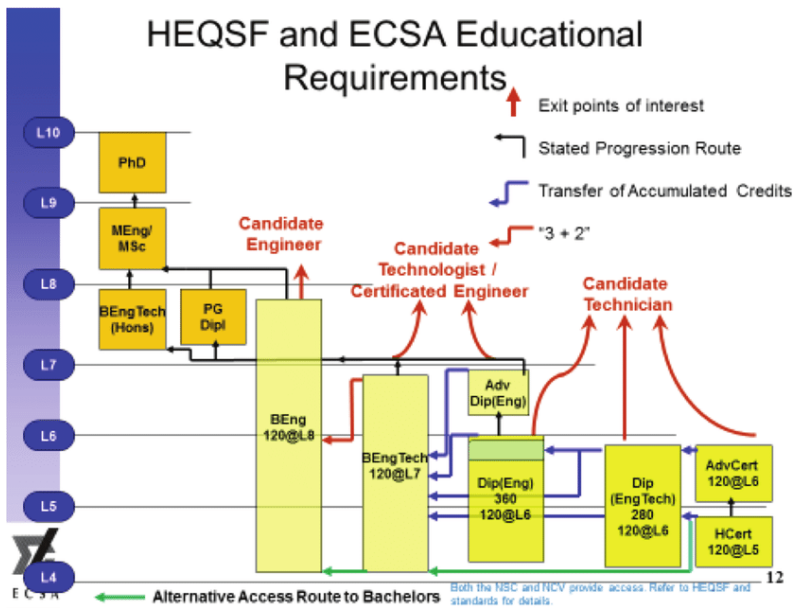

Figure 1: The HEQSF and ECSA educational requirements and progression (after ECSA) (2015)
ECSA pegs the accreditation of the current and upcoming Engineering Programmes on the HEQSF educational requirements, as shown in Figure 1. In terms of a graduate's need to register professionally, his/her education must also be aligned
- As shown in Figures 1 & 2, completion of this 360-credit Diploma meets the minimum entry requirement for admission to an Advanced Diploma designed to support articulation to satisfy an engineering technologist education benchmark. This Diploma provides the base for the graduate to enter training and experience toward independent practice as an engineering technician and registration as a Professional Engineering Technician.
- As shown in Figures 1 & 2, completion of this 140-credit Advanced Diploma is the minimum entry requirement for admission to a Bachelor Honours Degree or Postgraduate Diploma. Entry into these qualifications is usually in the area of specialisation or in the discipline taken as a major in the Advanced Diploma, after completion of the Diploma in Engineering or equivalent. In addition, the graduate attributes are such that a graduate may also meet requirements for entry to a number of programmes including: